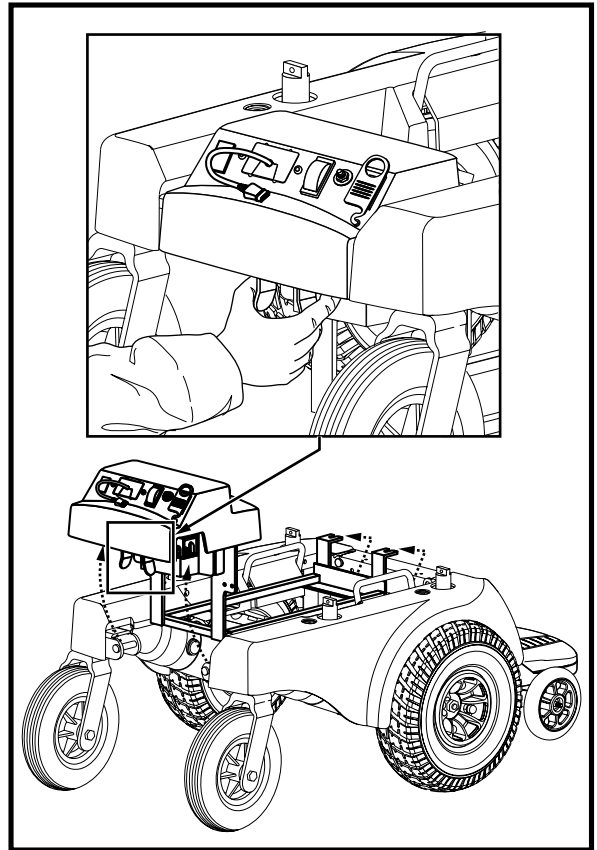

Figure 18. Removing Battery Well Frame
8. Squeeze together the latch release levers that hang vertically down from the crossbar at the rear of the battery well frame. See figure 18.
3. Pivot the front frame top bar toward the power base frame assembly and push the front frame top bar onto the locking mechanism until the two assemblies snap securely into place. See figure 18.